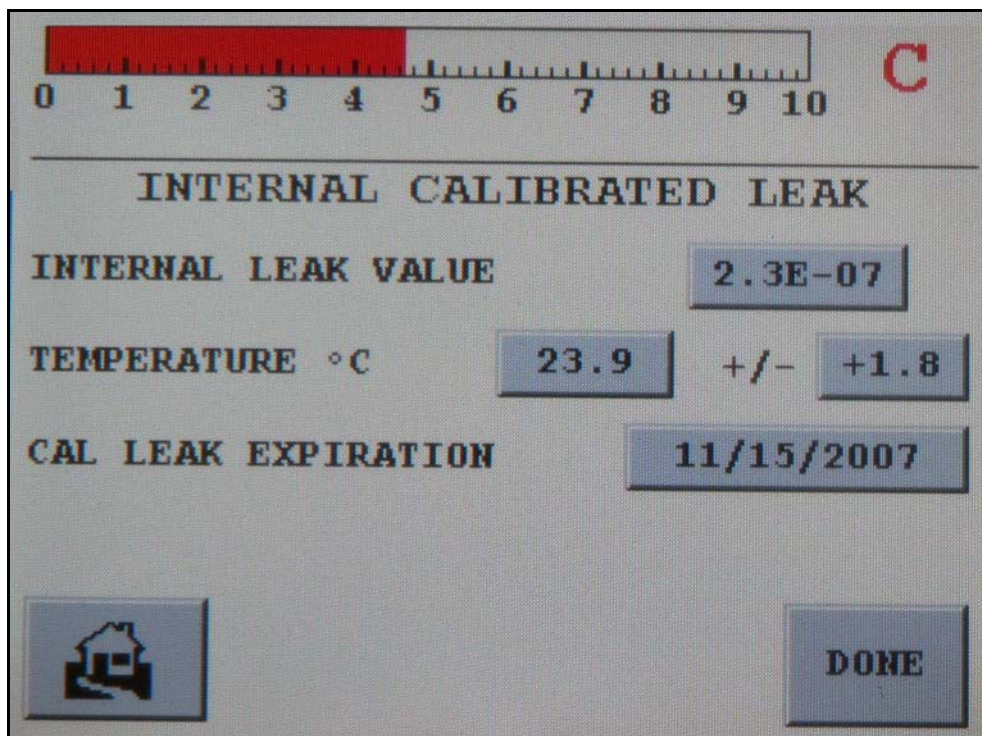

Figure 2-25 Internal Calibrated Leak
1. Press **Internal Calibrated Leak**. The Internal Calibrated Leak screen appears (Figure 2-25).